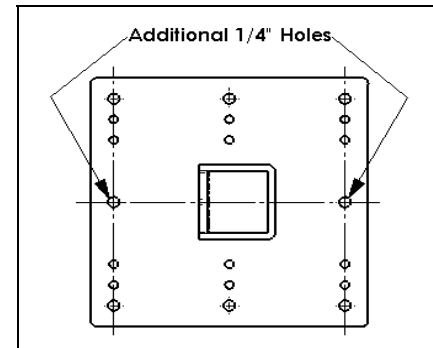

FIG. 2
1. Choose a fastener that (in your opinion) best suits the roof's construction and drive it in using a High-Torque Drill/Driver. The fastener's head should **NOT** be driven down flush with the roof's surface, but left standing approximately 1" above (Ref. FIG. 2).
3. Actuate your **Fastener Pullout-Strength Gauge** and watch for the unit's tension gauge to begin moving up the scale as tension on the fastener increases. On a manual unit; Turn the handle steadily at a rate of approximately one (1) turn every three-five (3-5) seconds.
NOTE: Pullout values of between 225 and 257 Lbs. will require Eight (8) fasteners to be used for EACH FOOT. Two, additional 1/4" holes may be drilled in each foot to accommodate the extra fasteners, required. (See FIG. 2) Based upon a maximum of Eight (8) fasteners per foot: